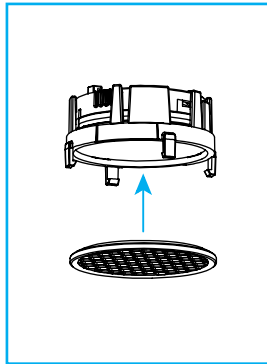
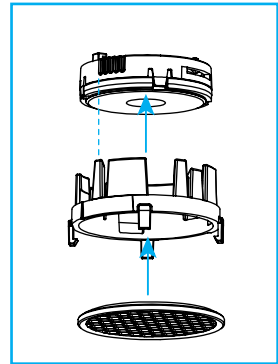

Fig.54
Fig.55
C. To install honeycomb louver, raise it up and clip into the holder *"Fig.54"*. The holder is not installed on the optic unless fixture is originally specified with the adjustable zoom optic or honeycomb louver. Holder ships with replacement honeycomb louvers and is installed by carefully pushing the holder up and clipping it onto the optic *"Fig.55"*.